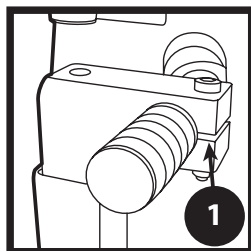

FIGURE 10
- Every thirty days apply light machine oil to the tracking assembly. (Figure 10) Two drops of oil are sufficient.